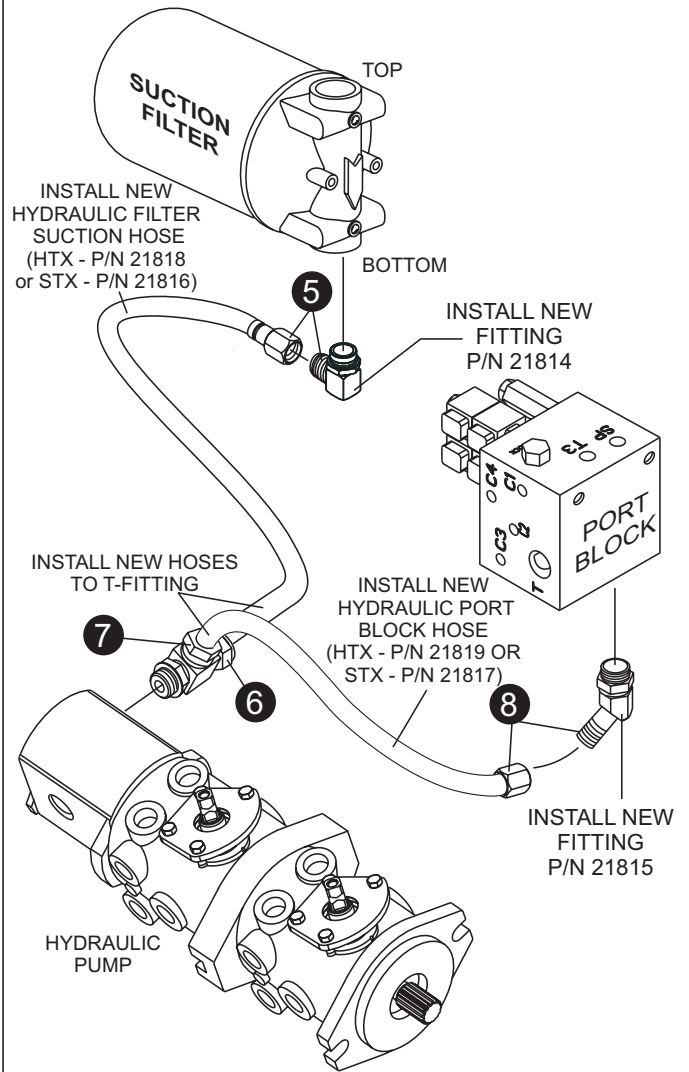

Figure 1. Modification Drawing
1. For removal and installation of hydraulic hoses, reference Figure 1.
5. Remove the bottom **suction hose** from the hydraulic suction filter as shown in Figure 1, step 1.
6. Remove the other end of the **suction hose** from the side of the T-fitting (Figure 1, step 2). It may become necessary to remove other hoses to gain complete access to the hose connection point. If so, take care in removing the other hoses.
7. Next, remove the **port block hose** from the top of the T-fitting (Figure 1, step 3).
8. Remove the other end of the **port block hose** from the port block fitting (Figure 1, step 4).
9. Install new screw-on fitting (threaded - P/N 21814) into hydraulic filter (Figure 1, step 5). Connect mating end of **new suction hose** (HTX - P/N 21818 or STX - P/N 21816) to this fitting (Figure 1, step 5).
10. Connect the other end of **new suction hose** to side of T-fitting (Figure 1, step 6).
11. Connect one end of **new port block hose** (H TX - P/N 21819 or STX - P/N 21817) to top of T-fitting (Figure 1, step 7).
12. Install new screw-on fitting (threaded - P/N 21815) into port block (Figure 1, step 8). Connect mating end of **new port block hose** (HTX - P/N 21819 or STX - P/N 21817) to this fitting (Figure 1, step 8).